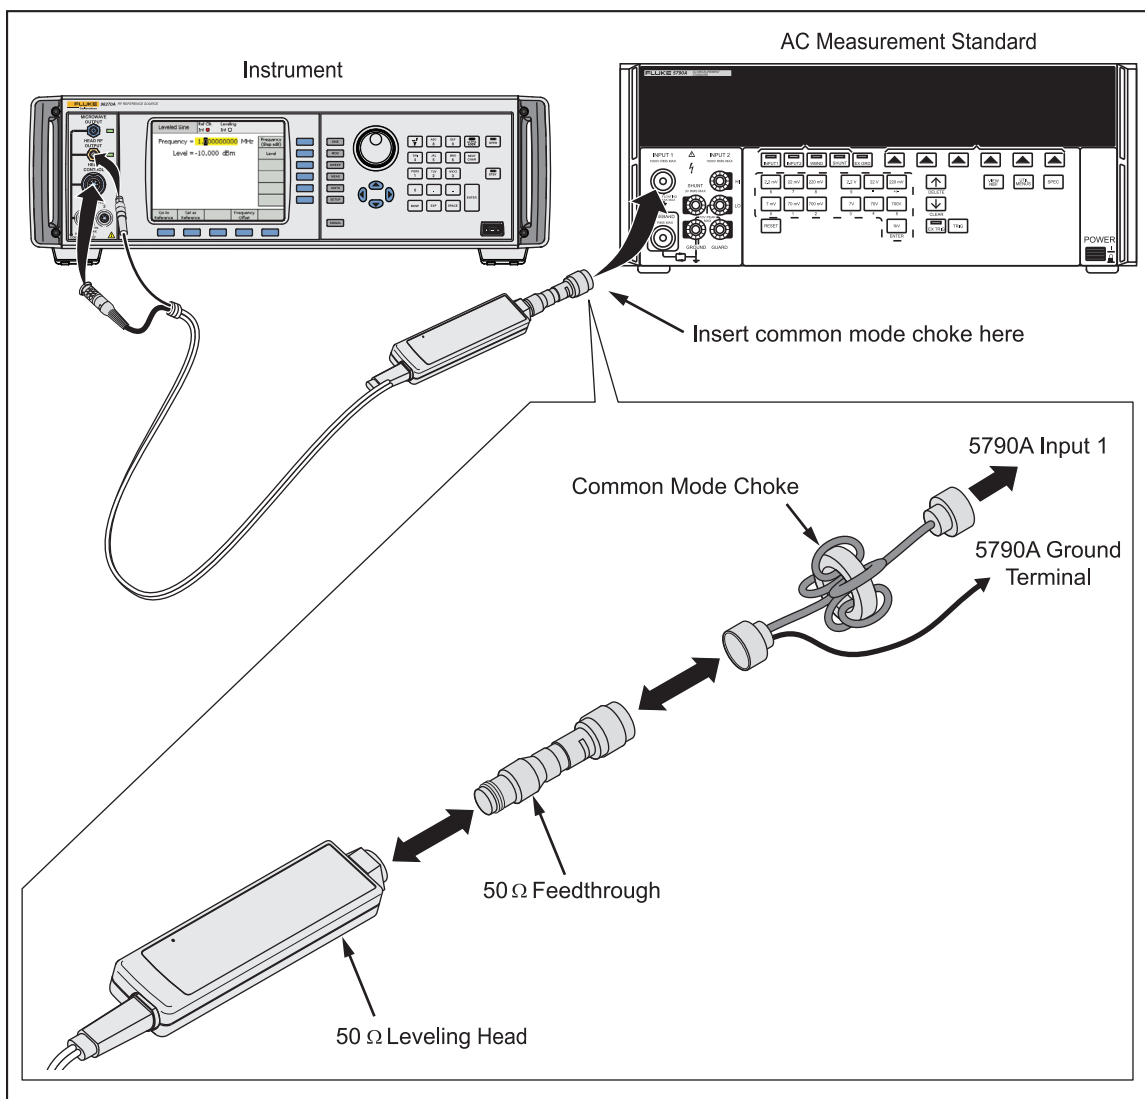

Figure 3-5. Equipment Connections - 50 Ω Leveling Head, Low Frequency Level Accuracy Test Points (96040A and 96720A)
1. Connect the 50 Ω Leveling Head to the INPUT 1 connector on the AC Measurement Standard using a precision 50 Ω feedthrough termination. (If a Type-N feedthrough termination is not available, use a BNC 50 Ω feedthrough termination and appropriate adapters. Ensure that BNC connector contact resistance and repeatability does not significantly degrade measurement uncertainty). Select INPUT 1. See Figure 3-5 for equipment connections.